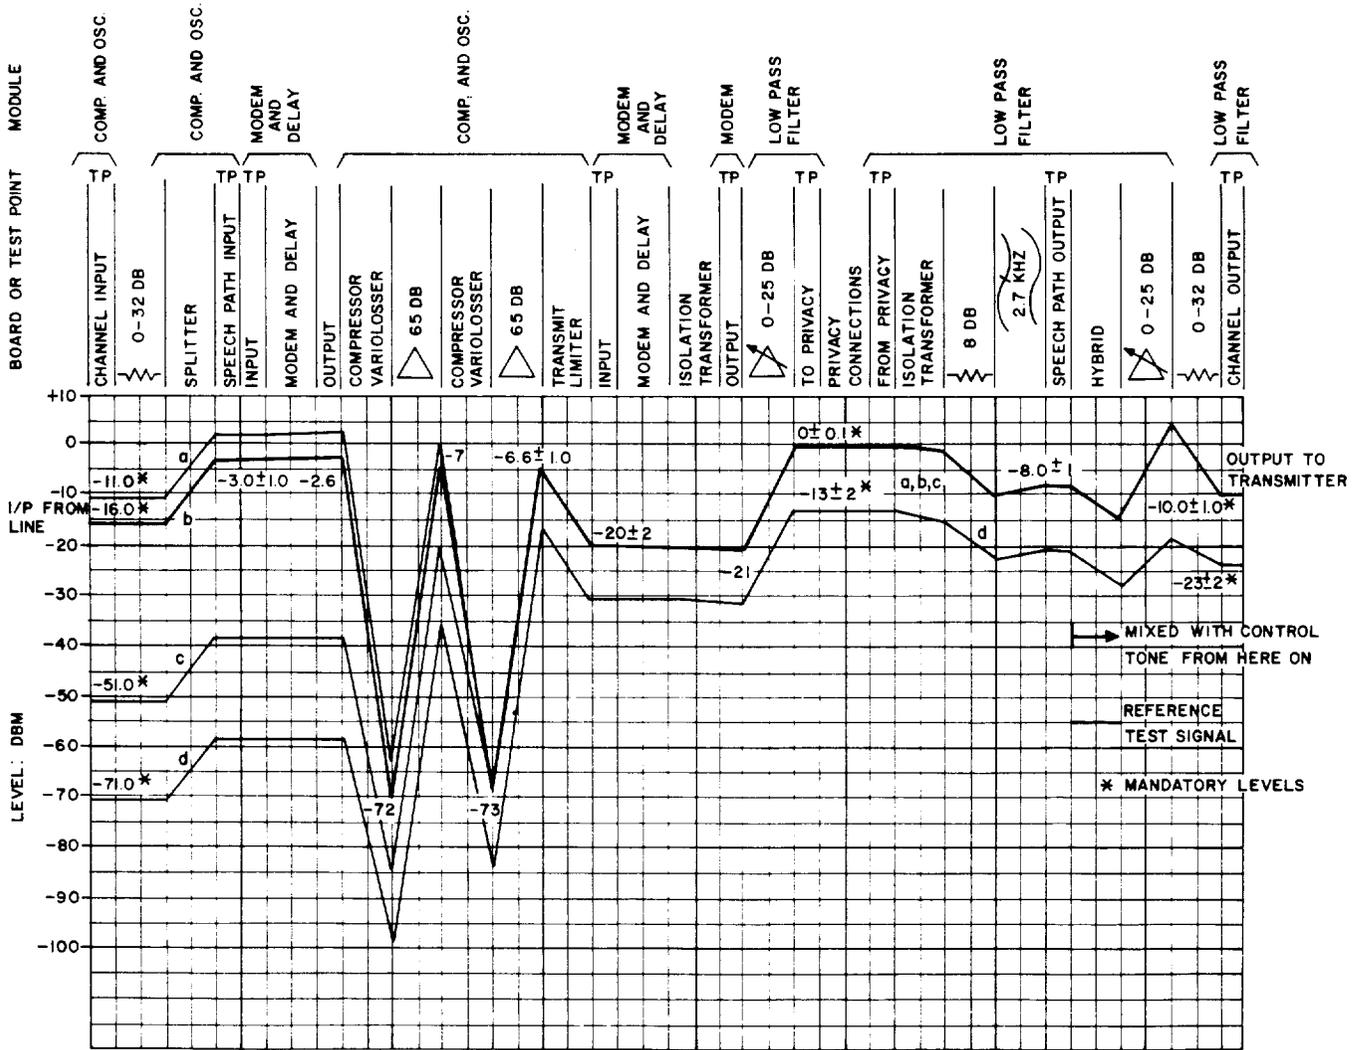

Fig. 1—Speech Path Level Diagram
**Note:** The signal level diagrams (Fig. 1 and 2) will be useful in performing these tests.